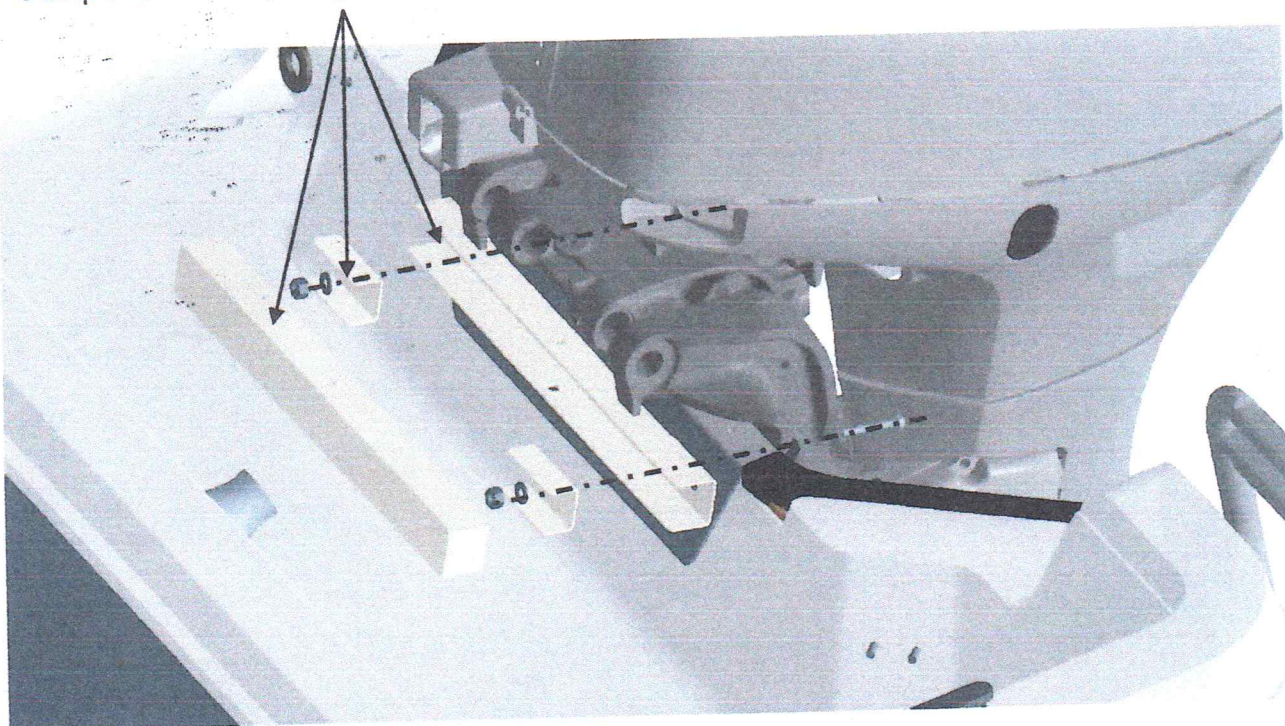

Figure 2
7. Install upper bolts by pushing them from the stern transom towards the enginewell. Install engine installing bracket as shown in Figure 2.